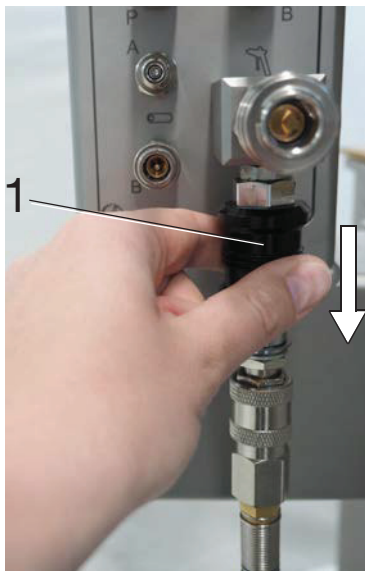

Fig. 8-1 Arrow: pointing against the direction of flow
- Push the air release valve (1, Fig. 8-1) against the direction of flow (see arrow, Fig. 8-1), thereby opening it.